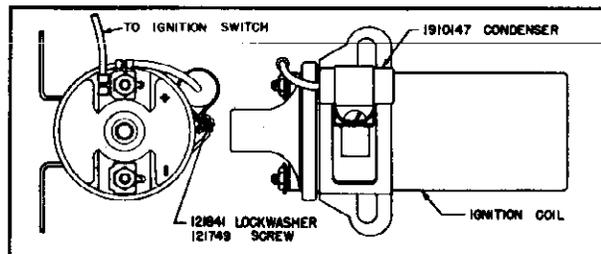

Figure 60
4. Install ignition coil condenser on ignition coil. (See Figure 60.)